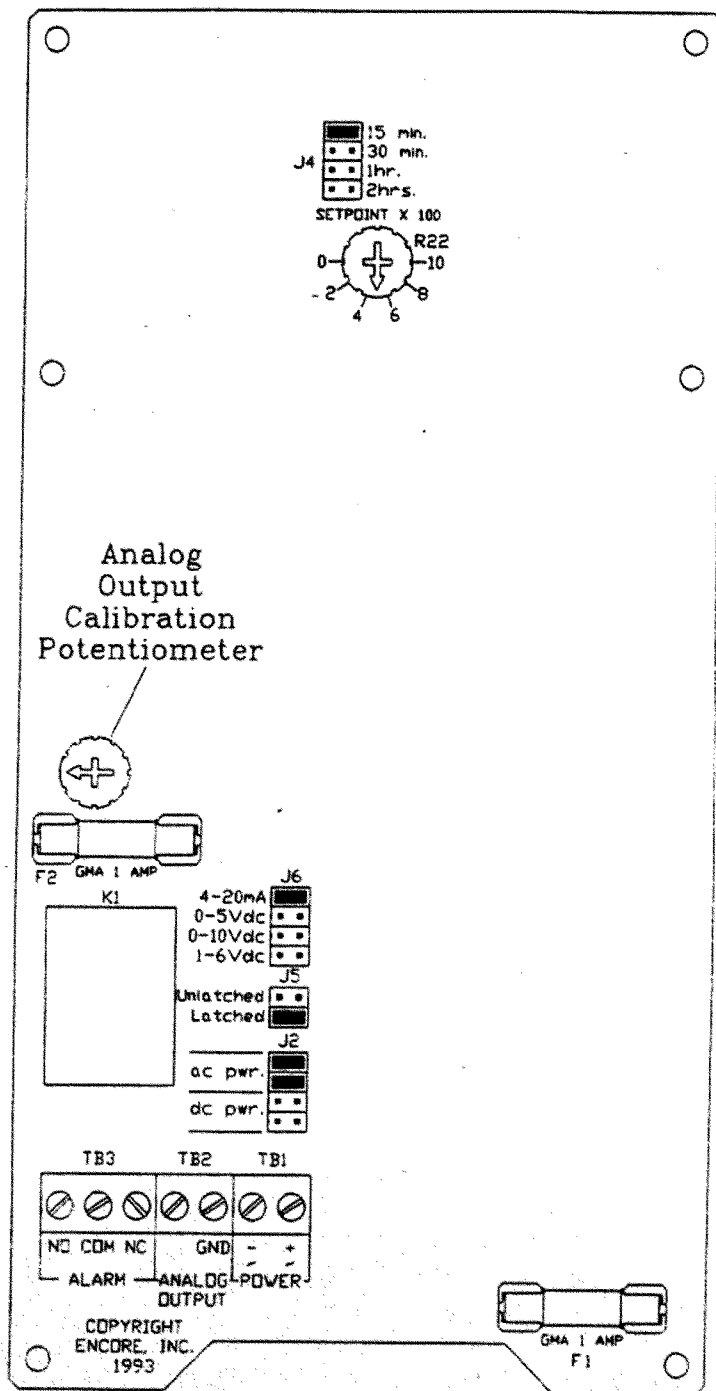

Figure 1
Step 4 Turn the RLD-134A over until the circuit board can be seen and locate the potentiometer as shown in **Figure 1**.
Step 9 Slowly turn the Analog Output Calibration Potentiometer shown in **Figure 1** counter-clockwise until the Analog Output reads 4.0mA. Now continue to Step 14.